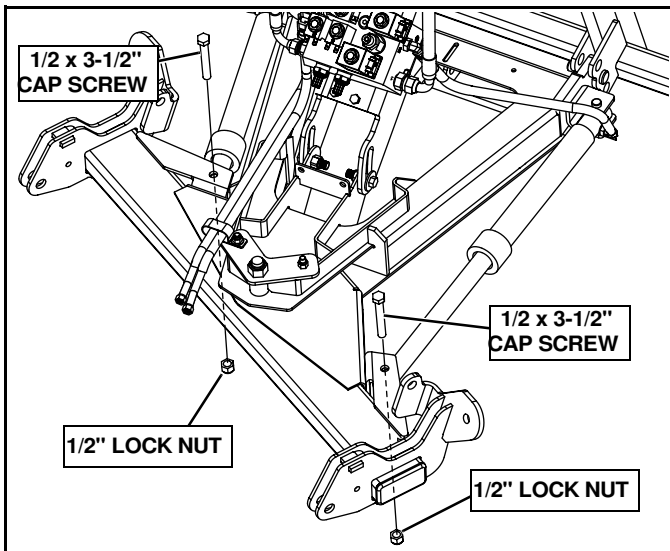

Figure 2-12
6. Remove nut, spacer, and bolt from rod end of cylinders. Reconnect the power and control. Extend cylinders using plow control to align holes in cylinder rod and swing frame. Secure with 1/2" x 3-1/2" cap screws, and 1/2" lock nuts. (See Figure 2-12)